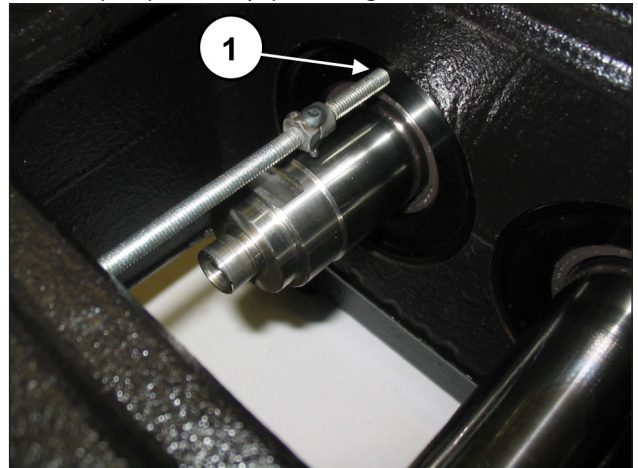
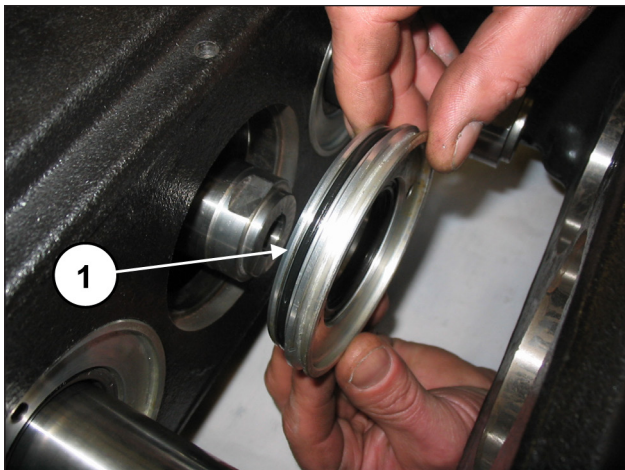

Fig. 3
Fig. 4
Screw in a threaded bar or an extractor M6 screw in the holes in the oil seal covers (pos. ①, Fig. 3) and remove the covers from the pump assembly (pos. ①, Fig. 4).